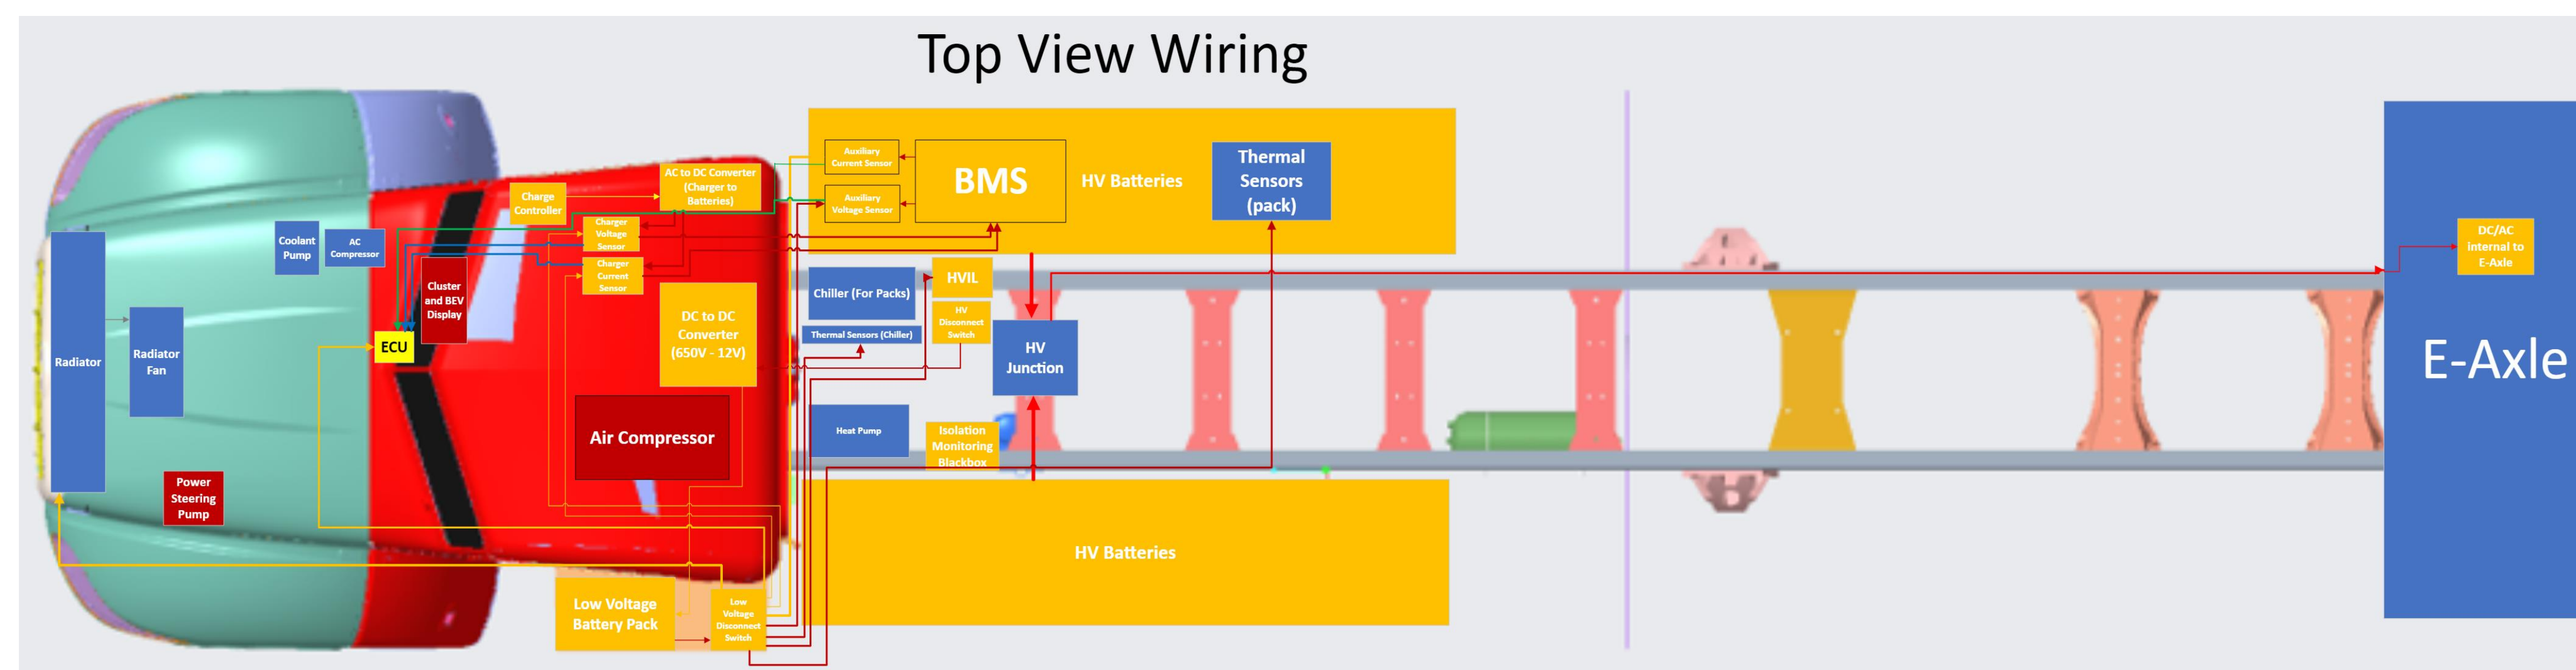

Figure 4: Routing Diagram
- Finally, we began to consider the routing strategies needed for future years. Our high-level routing diagram is shown in Figure 4.
- Teaching Assistant (TA): Rose Johnson
- Retrofit team for the 3D CAD model of the truck (Figure 4).